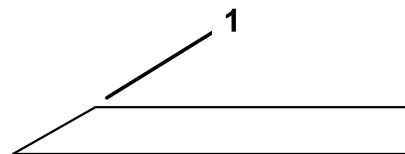

Figure 39
1. Use a file to sharpen the cutting edge at both ends of the blade (Figure 39).